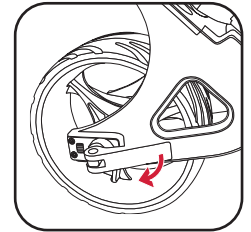

Fig 1
1. Lift the quick release lever positioned on the front wheel housing and loosen the wheel nut (fig. 1)